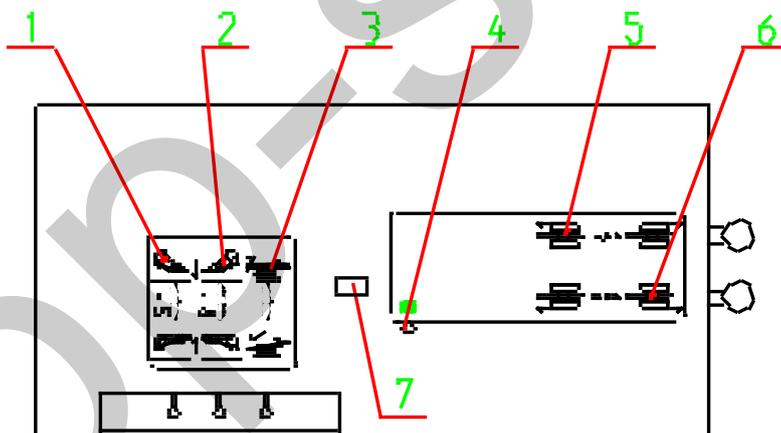

Figure 7 Operation panel of post console
1.4 Please refer to Figure 7 for operation panel of post console and refer to Table 5 for detailed functions.